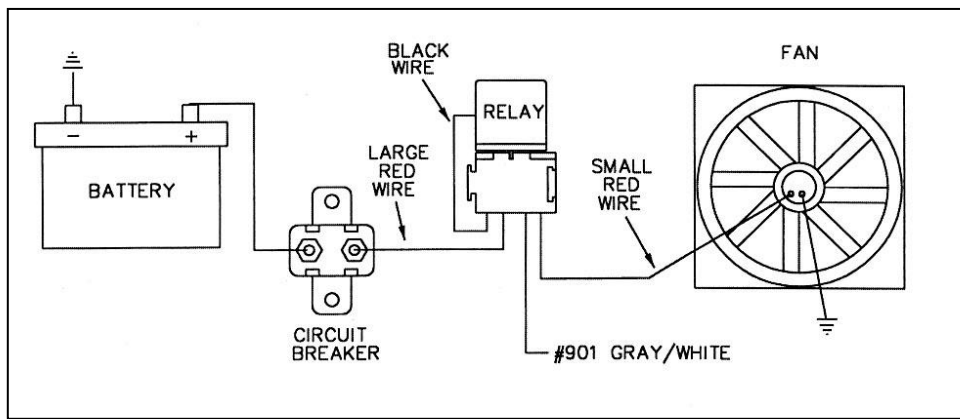

Figure 8-4A Typical Fan Relay Installation (**Painless Part #30101**)
8.5.4 Connect HEADLIGHT SECTION A wire #901 (GRY/WHT) to the Electric Fan Relay. This wire is an activation wire for the relay, **NOT A POWER FEED**. The other end of wire #901 is in the ACCESSORY SECTION SWITCHES and should be connected to a electric fan switch in the dash. Connect 906 (GRY/WHT) from ACCESSORY SECTION B+ to the other side of the fan switch. **Figure 8-4A** shows a typical fan relay installation.